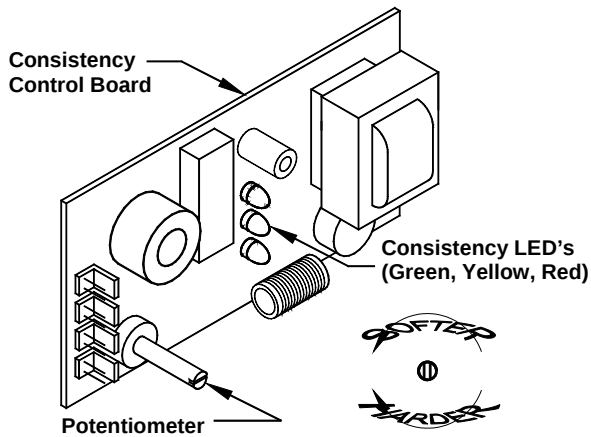

Fig. 40
3. Use a small slotted and **insulated** screwdriver to turn the potentiometer clockwise for thicker product or turn it counterclockwise for thinner product. (Fig. 40)